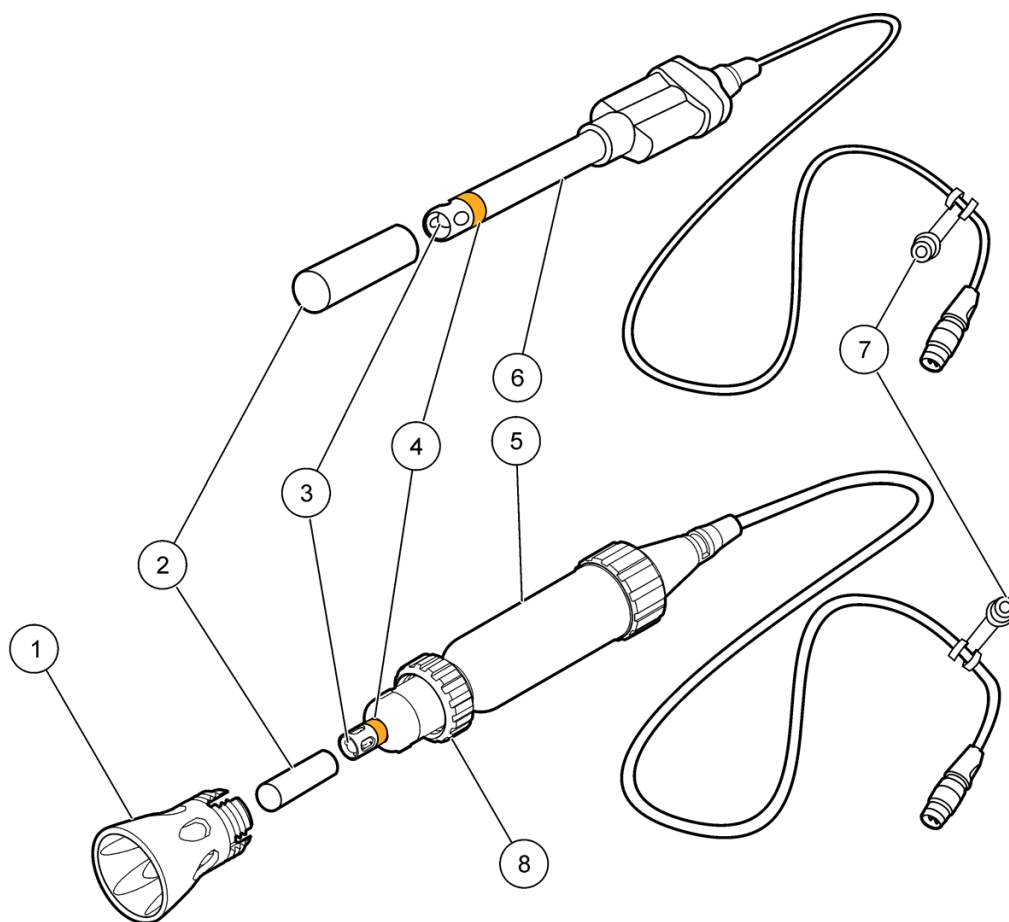

Figure 1 Probe overview
2. Before first use, remove the tape from the reference junctions and the label from the electrode body. Refer to Figure 1.